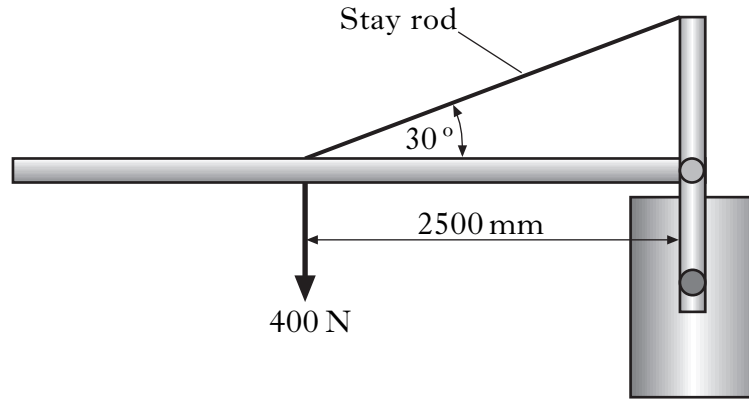

Figure Q8(a)
8. A car park barrier is shown in Figure Q8(a).